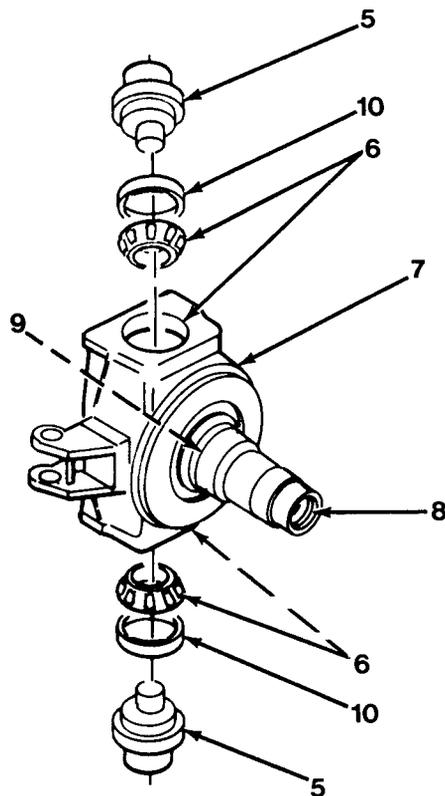

Figure 12-2
3. If removed, install thrust ring (8) in splined end and shaft bushing (9, Figure 12-2).
4. Grease center bore of pivot and spindle assembly (7).